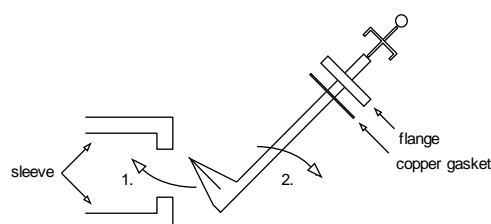

Figure 16. Mounting procedure for the wobblestick, top view.
- Slip a copper gasket over the wobblestick from the front. Mount the wobblestick to the VT STM XA chamber. It can be inserted through the flange without dismantling, see figure 16. Fix the bolts. (If you only want to practise wobblestick operation a used gasket will do.)